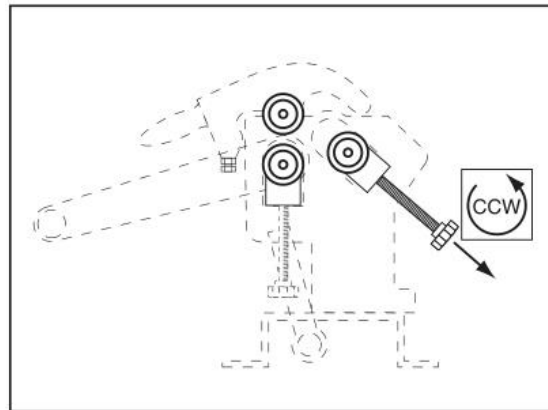

Figure 9
2. Lower the rear roller as far as possible. Use calipers or a spacer to set the distance between the rear roller and top roller evenly at each end (Figure 9)